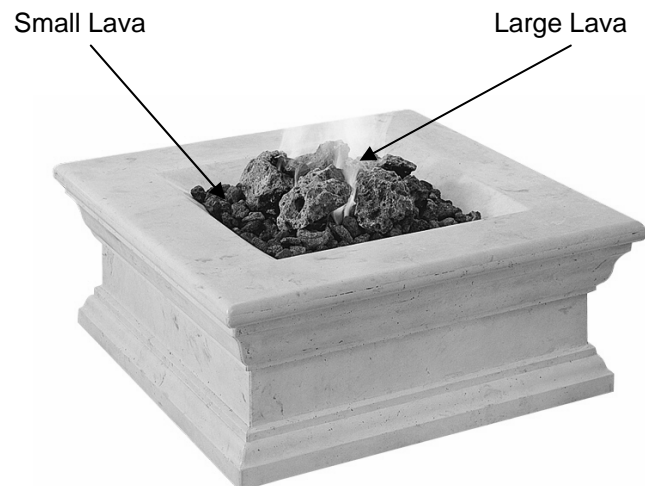

FIGURE 3
Your GraceStone Decorative Gas Fire Pit by S.B.Grace was designed to operate with two (2) types of lava rock (not included with some models). (SEE FIGURE 3)